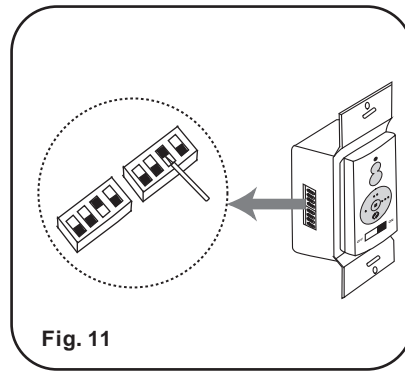

Fig. 11
**NOTE:** The Aire Control® System is equipped with a learning frequency function which has 256 code combinations to prevent potential interference from other remote units. The frequency on your Receiver and Transmitter units have been preset at the factory.(Fig. 11) No frequency change is necessary, should you desire to install another fan within the same home or area with a separate frequency code please see the "frequency interference" troubleshooting section of this instruction manual to learn how to change the frequency.